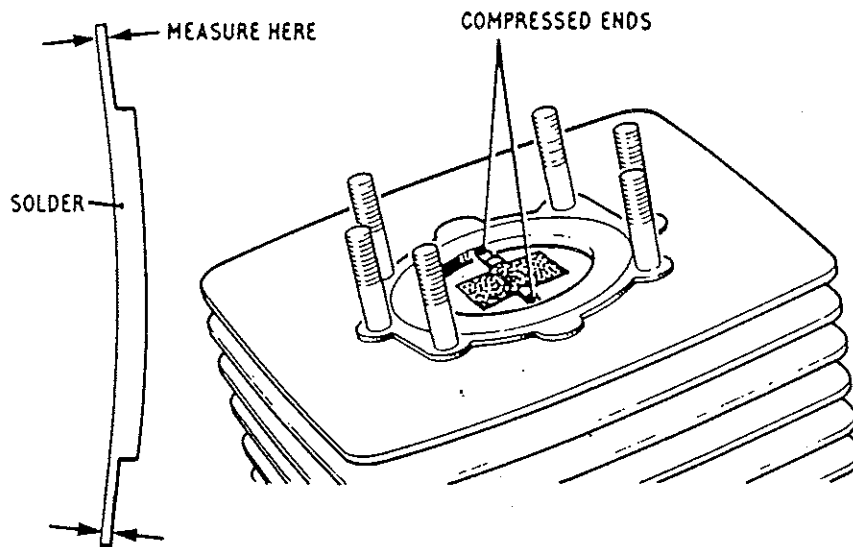

FIG.1.4b - MEASURING SQUISH AREA
5. Remove cylinder head. (See Fig. 1.4b).